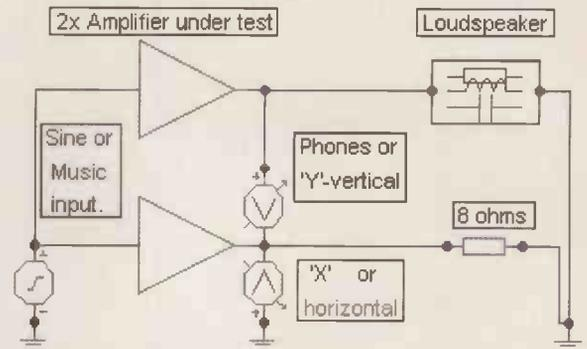

Figure 24: The 'X-Y' amplifier interface distortion monitoring arrangement
If both channels of a stereo amplifier under test are simultaneously fed together, with headphones, tweeter, oscilloscope or simulated monitoring of the difference between outputs, then nothing should be observable when each channel is driving the same output into equal resistance loads. However, if one resistor is then replaced by a composite loudspeaker system, as is illustrated in Figure 24, then any previously level balanced degradation of amplitude linearity or any reactively induced dynamic phase (time) shift in amplifier output will instantly be rendered audibly or visibly detectable. If there is any amplifier non-linearity distortion in the 8Ω output w.r.t. the loudspeaker output, then this too will become part of the audible error or amplitude trace, such that the output from a poor amplifier will appear worse than expected, but this is no bad thing because it is just as important to optimise amplitude linearity as well as minimise dynamically generated loudspeaker back EMF induced amplifier errors. Also, I see the Figure 24 examination arrangement as being a 'live' monitoring set-up because it is capable of automatically 'nominally nulling' the amplified music waveform via an on-going subtraction of a normal propagation delayed and 8Ω resistor loaded zero phase waveform, from that which becomes modified by loudspeaker back EMF generation, such that there will be an on-going 'listening time' indication of loudspeaker induced amplifier distortion whilst the amplifier is real time driving the loudspeaker with complex music signal waveforms.
**The most humble of oscilloscopes should be capable of producing this kind of differential display from the 'Y' take off point illustrated in Figure 24. Note however that the oscilloscope input ground is directly connected to the resistor loaded 8Ω amplifier output, so it must be a battery portable type with anything connected to it being ground isolated and insulated, or be ground isolated and powered via a good isolating transformer; also the oscilloscope should be kept well away from the audio frequency signal source and cabling, also the amplifier's input panel. The oscilloscope timebase may be free running, event triggered or externally synchronised to the phase linear 'X' waveform appearing across the 8Ω resistor such that an on-going display of dynamic loudspeaker induced distortion may be viewed during 'live' listening.
- 10kHz and again equally gain matched to output 10V.RMS across an 8Ω resistor. Here the difference between the resistor loaded amplifier under test, and its virtual 'Ariel' loudspeaker loaded stereo partner, goes to the Vertical or 'Y' input of an oscilloscope as set out in Figure 24, whilst the Horizontal or 'X' input is connected to the common ground termination. The oscilloscope ground is again directly connected to the 8Ω loaded amplifier output, so good isolation remains essential.
I mention this AM radio modulation monitor because it was a display that could be left constantly running and be viewed whilst listening to distorted reception. This is the idea behind my Figure 24 'live' monitoring method for observing music signal induced amplifier interface distortion, because loudspeaker induced amplifier distortion products can be rendered visible and be directly associated with what we are listening to whilst the amplifier under test is music driving real-world loudspeakers. Of course this method of investigation can also be set up using computer simulation software, as here in Figure 26 which shows;-
Observance of these differential traces has convinced me that good results from the above suggested methods for 10kHz investigation are essential, i.e. a low equivalent FCD output terminal measurement w.r.t. a conventional forward input voltage; a low level of low angle steady sinewave residual w.r.t. a reverse testing load resistance injected input; a low level of initial reverse driven dynamic output terminal voltage development with fast and stable control, and especially, a smooth plus low level of observable differential resistor-loudspeaker load induced dynamic error via the Figure 24 test circuit. Differential testing is especially easy to set up on a good simulation program screen by copy-pasting a resistor loaded amplifier circuit on to the same page and then changing one load into a virtual loudspeaker, linking the inputs to a single source and attaching horizontal and vertical screen oscilloscope inputs as illustrated. Indeed, this method is so instantly revealing of possible reactive loudspeaker induced